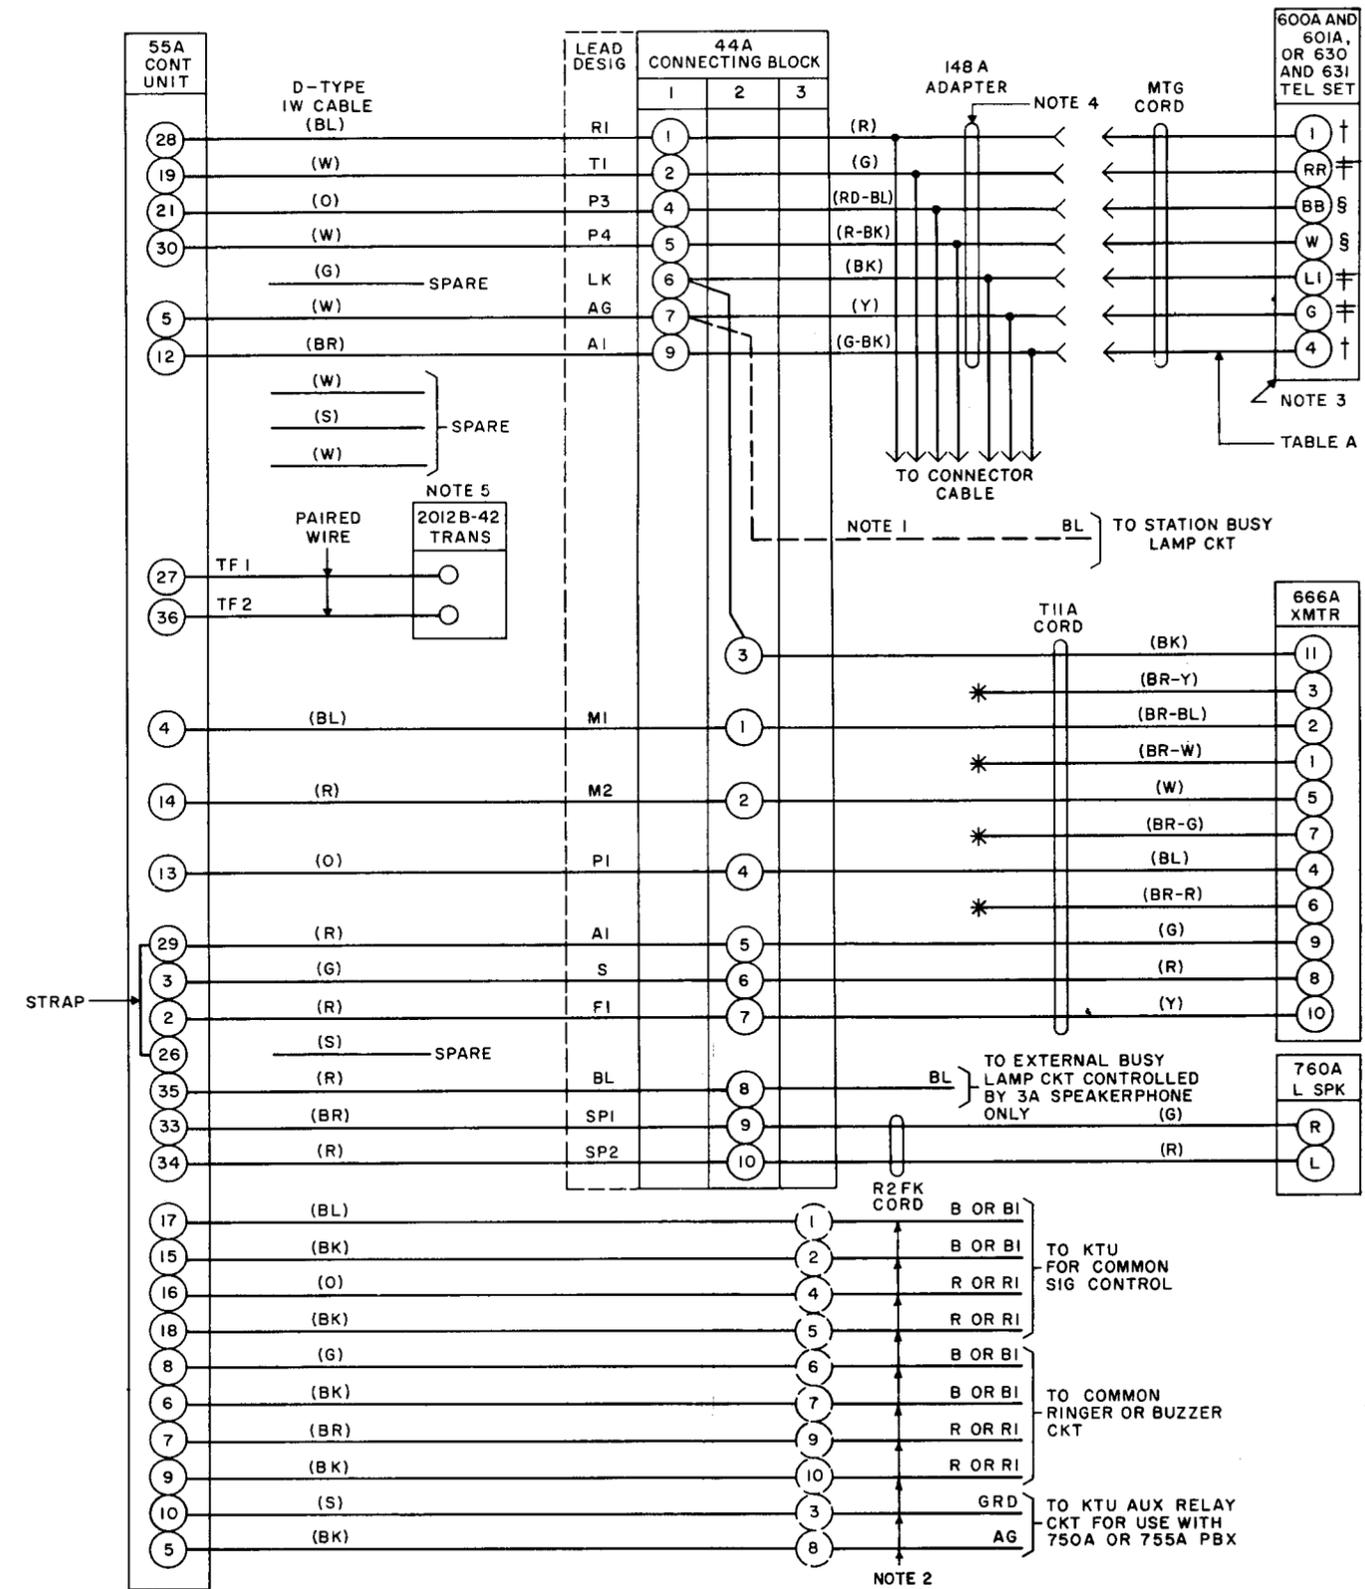

Fig. 1 — 630- (600A) or 631- (601A) Type Telephone Sets with 666A Transmitter Unit
- Change the code of some cords and add notes to Table A, Fig. 1.